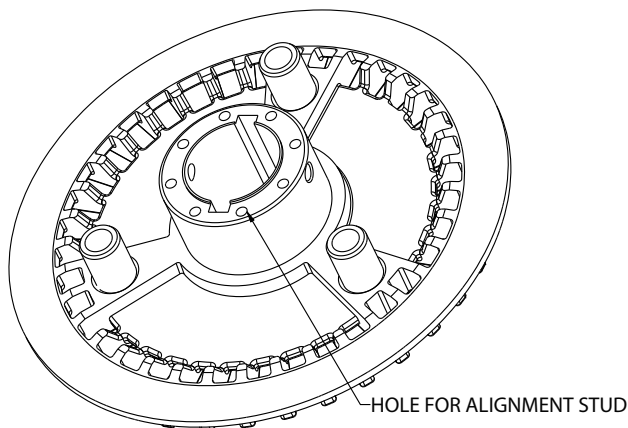

Figure 11 : Stud Alignment
- 4.7.4 Position hub on the table with keyway at the 12:00 o'clock position and install two locating studs at 180°, as shown in **Figure 11**. See Table 7 for the proper size and length of the alignment studs to be used (customer provided).